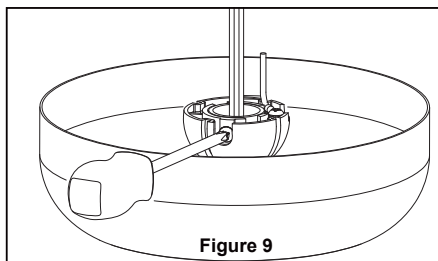

Figure 9
- ☐ 9. Reinstall the hanger ball on the downrod as follows. Route the black, white and blue wires through the hanger ball. Position the pin through the two holes in the downrod and align the hanger ball so the pin is captured in the groove in the top of the hanger ball. Pull the hanger ball up tight against the pin. Securely tighten the set screw in the hanger ball. A loose set screw could create fan wobble. (Figure 9)